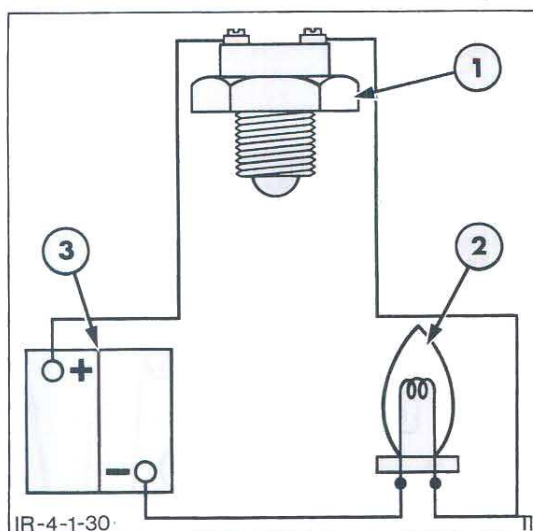

Figure 33
2. Check the safety start switch for operation by connecting the switch to a suitable bulb and battery as illustrated in Figure 33.